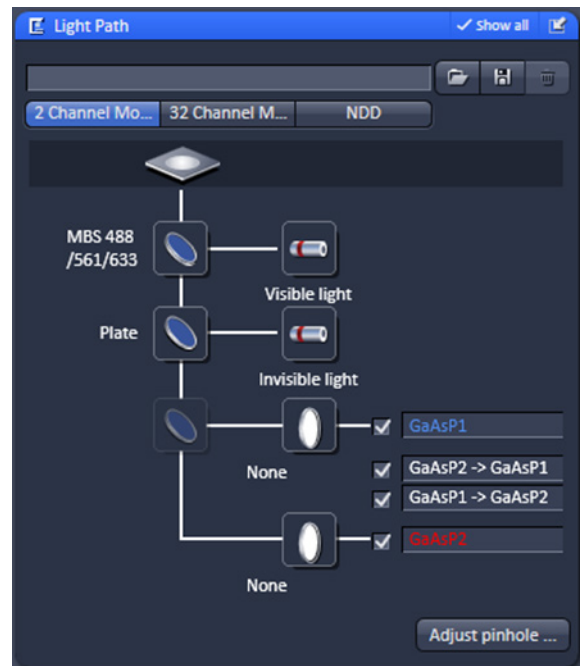

Fig. 260 Light Path tool for 32 channel system with BiG.2 on DC out and NDD port
- 1.) 32 GaAsP array / one side PMT and optional 2 Channel Module (BiG.2) and/or NDD (BiG.2 as NDD) (Fig. 260)
- 2.) 3 ch with one GaAsP and one side PMT and optional 2 Channel Module (BiG.2) and/or NDD (BiG.2 as NDD) (Fig. 260)
If more than one detector type is available, the respective beam path can be selected by pressing the corresponding tab, where **2 Channel Module** represents BiG.2 on the direct coupling port of the scan head; **32 Channel Module** or 3 Channel Module represents the Quasar detector (32 channel GaAsP array or 1 channel GaAsP with 2 flanking multialkali PMTs); and **NDD** represents BiG.2 on NDD port (Fig. 260). Two detector types are available simultaneously that can perform FCS.